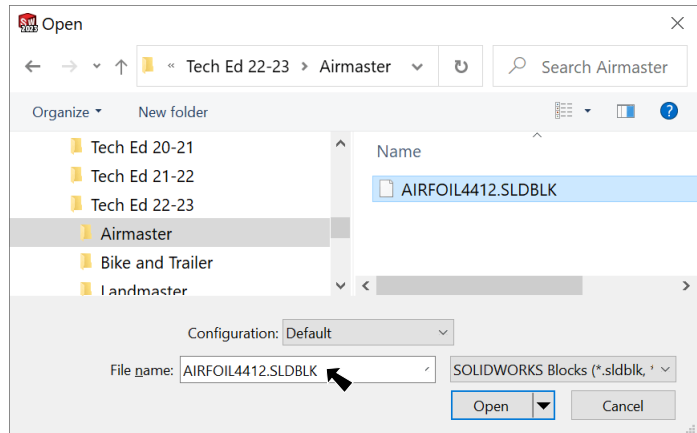

**Fig. 53**
Step 2. Click **Plane1** in the Feature Manager and click **Sketch** on the context toolbar, **Fig. 53**.